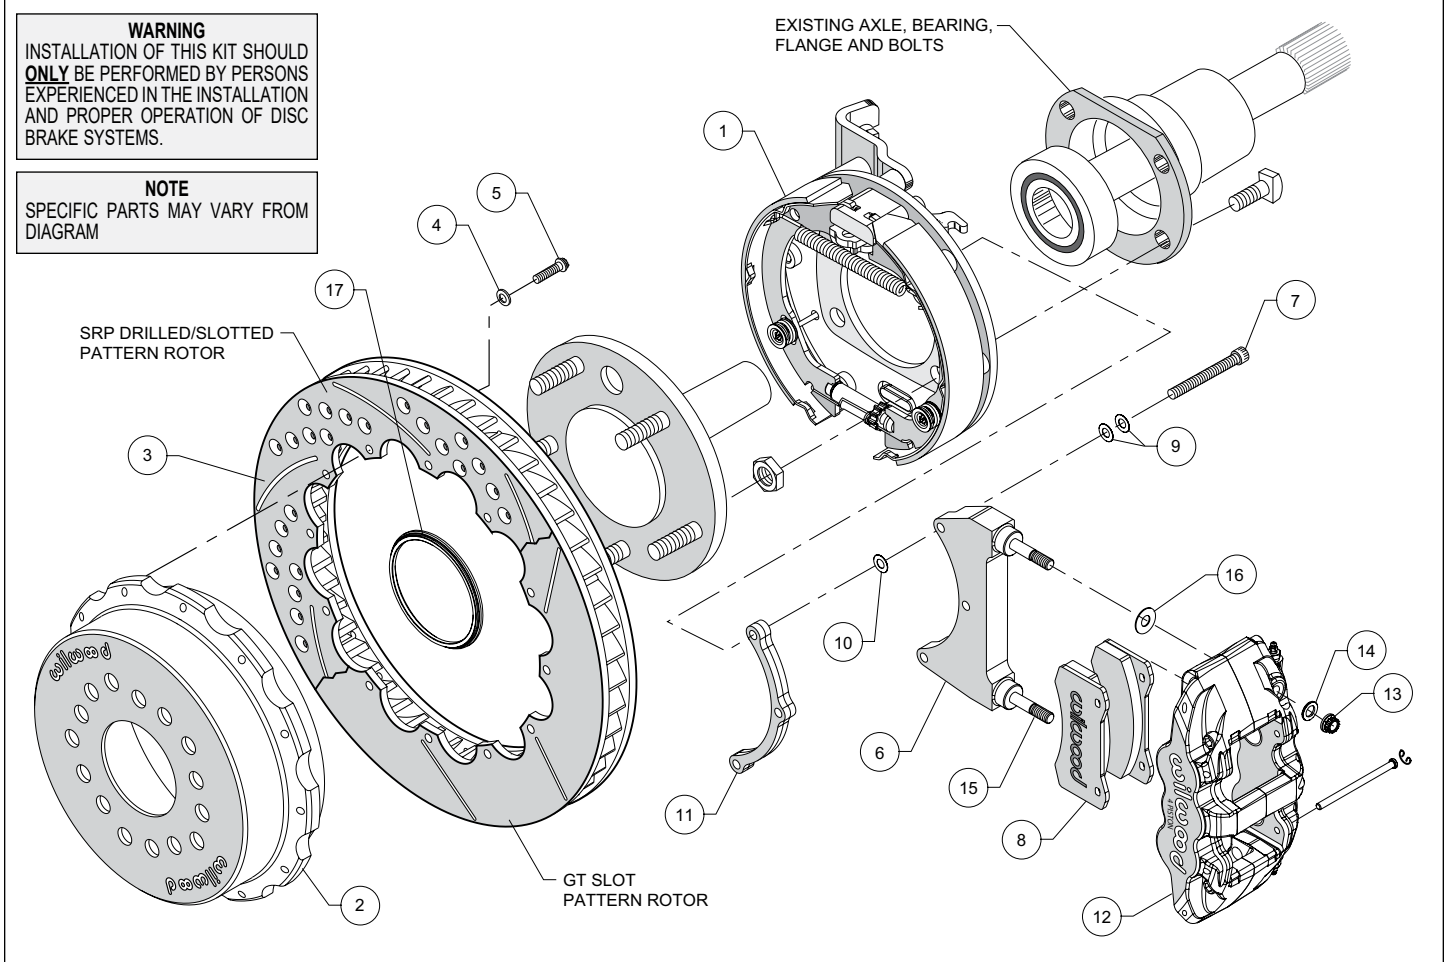

Figure 1. Typical Installation Configuration
- Slide the rotor registration adapter (17) onto the axle register on the axle flange with the smaller O.D. facing toward the rotor/hat (2). Align the correct hole pattern in the hat with the stud pattern on the axle flange. **NOTE:** *Some OEM and aftermarket axles come with stud sizes larger than 0.50" diameter.* Verify stud size and have a qualified machine shop drill the hats to the correct size, if necessary. Slide the hat/rotor assembly (2 and 3) over the wheel studs covering the bracket kit assembly (1) and against the axle flange face. Check to be sure the hat seats squarely against the hub. Install three lug nuts (finger tighten) to keep the rotor/hat assembly in place while continuing with the installation.
- NOTE:** *Please reference the caution statement at the beginning of the assembly instructions.* The caliper mounting bracket assembly (6) should be installed first with clean, dry threads on the mounting bolts (7). Install the bracket from the rear side of the bracket kit assembly (1) by sliding bolt (7) through two flat washers (9), bracket (6), shim washer (10) and finally through the spacer (11), see Figure 1. **NOTE:** *End of bolt should not exceed inside face of insert. The bracket must tighten squarely against the back side of the bracket kit assembly (1).* Inspect for interference from casting irregularities, machining ridges, burrs, etc. Use one thin shim (10) between the bracket (6) and spacer (11) during initial trial fitting.
- Lubricate caliper mounting studs and nuts with lightweight oil. Install one washer (16) over each pre-installed stud (15) on the radial mount bracket (6). Slide the caliper (12) in place over the studs and rotor, then install the washer (14) and lock nut (13) to hold the caliper in place. The caliper bleed screws should be pointing up. Snug the lock nuts (13) and check that the rotor (3) is centered in the caliper (12). Add or subtract .015" shims (10) as necessary between the caliper mounting bracket (6) and the spacer (11) to center the caliper (12).
- Remove the two pad retaining pins from the caliper (12) by carefully popping out the pin retaining clips and sliding out the pins. Insert the brake pads (8) into the caliper from the bottom, Figure 1. With the friction material facing the rotor, secure the brake pads in place with the pad retaining pins and clips. Reinstall the caliper onto the caliper mounting bracket and temporarily tighten the lock nuts. Check that the top of the brake pad is flush with the outside diameter of the rotor. If not, adjust by adding or subtracting shims (16) between the caliper and the bracket.
- Adjust the parking brake shoes outward (using a drum shoe adjustment tool available at your local auto parts store) while spinning the hat (2) until a slight drag is felt against the hat/drum. Remove the lug nuts that were holding the hat/rotor in place. Install the wheel and lug nuts. Check to see that the wheel rotates freely without interference.
- Once all clearances have been checked, remove the wheel, caliper, hat/rotor from the bracket kit assembly (1). Secure the caliper mounting bracket (6) to the bracket kit assembly (1) using red *Loctite*® 271. Torque bolts (7) to 180 **in-lb**. Reinstall the hat/rotor assembly and again use lug nuts to hold it in place. Reinstall the caliper, torque the caliper nuts (13) to 47 **ft-lb**.
- NOTE:** *Clevis and cable kits which attach to the parking brake assembly are not included in the Wilwood parking brake kit.* Wilwood offers a generic style parking brake cable kit, P/N 330-9371 for this application which can be ordered separately from your local Wilwood dealer or by calling Wilwood customer service at (805) 388-1188.